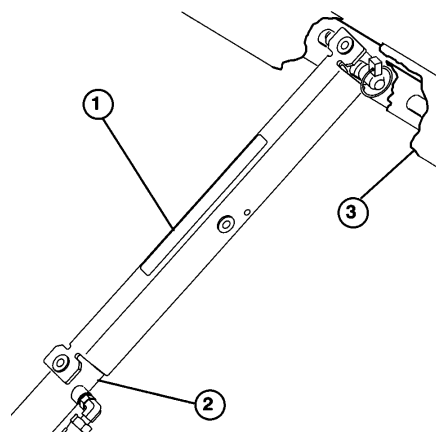

Figure 24
3. Push the bed support onto the cylinder rod, making sure support end tabs rest on the end of the cylinder barrel and on cylinder rod end (Fig. 24).